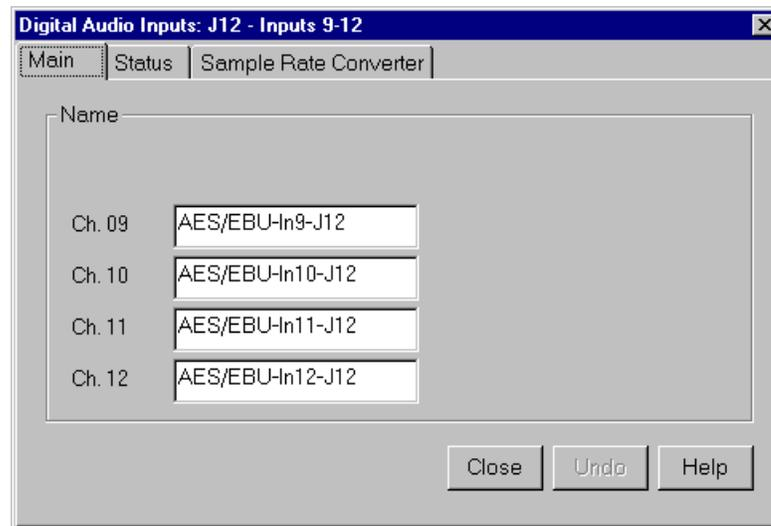

Figure 40. Digital Audio Input dialog box, Main tab
1. Expand Audio Input, and then click one of the Digital Channels to bring up the Digital Audio Input dialog box (Figure 40). The channel numbers on the left refer to the physical input connectors on the audio input box. **Ch. 01** and **Ch. 02** refer to the channel pair on the first connector, and **Ch. 03** and **Ch. 04** refer to the pair on the second connector, and so forth.